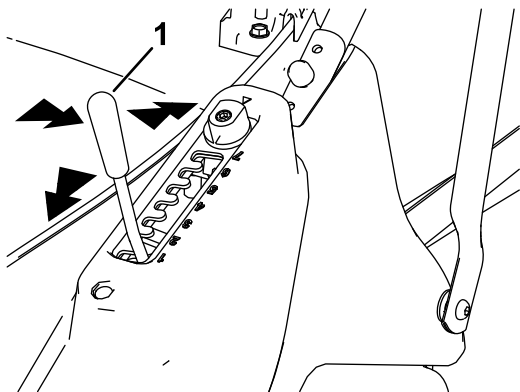

Figure 16
1. Grip the height-of-cut lever and pull sideways to disengage it from the locking notch (Figure 16).
2. Push the lever forward to lower or pull it backward to raise the height of cut (Figure 16).
3. Release the lever at the wanted position and ensure that it locks firmly into 1 of the 7 setting notches (Figure 16).